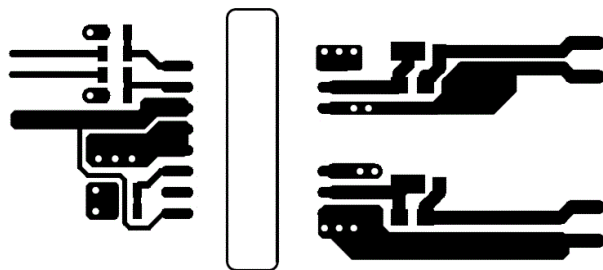
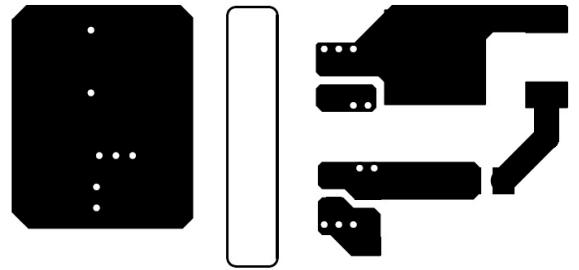

Figure 12-2. Top Layer Traces and Copper
Figure 12-3. Bottom Layer Traces and Copper (Flipped)
- Increasing the PCB copper connecting to VDDA, VDDb, VSSA and VSSB pins is recommended, with priority on maximizing the connection to VSSA and VSSB (see Figure 12-2 and Figure 12-3). However, high voltage PCB considerations mentioned above must be maintained.
Figure 12-2 and Figure 12-3 shows top and bottom layer traces and copper.